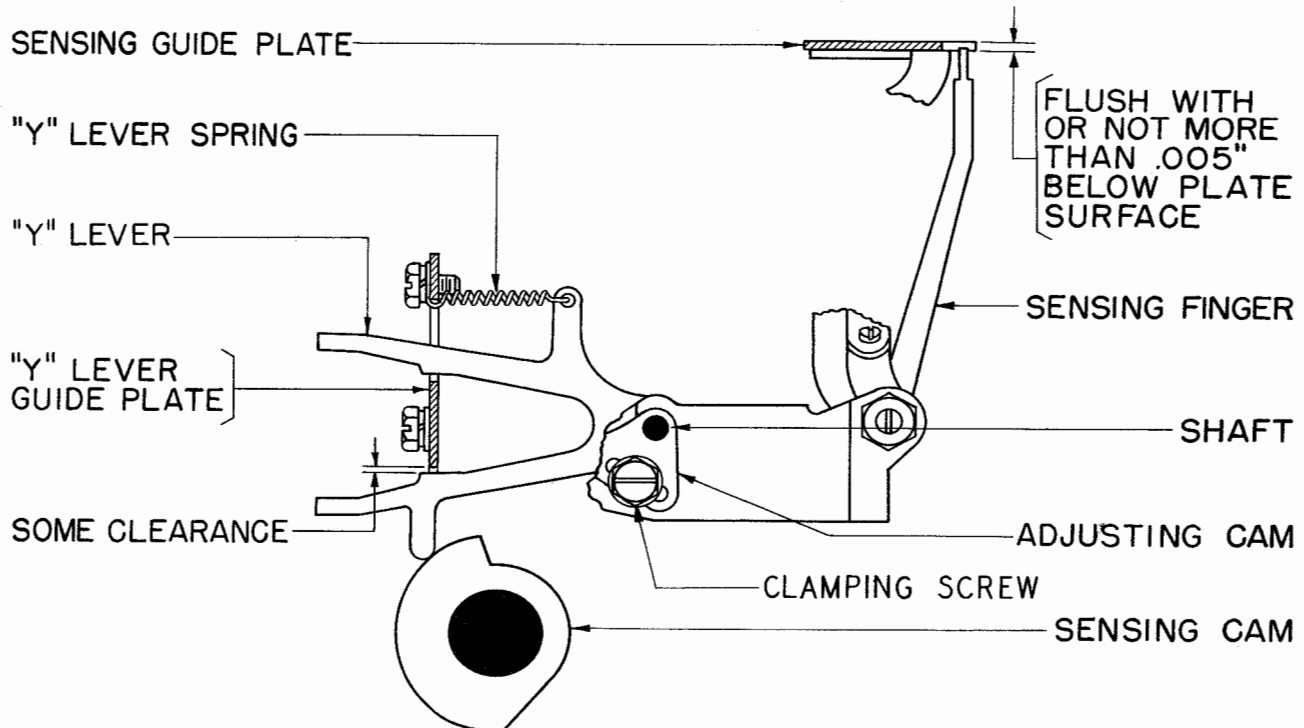

Figure 53
2.109 Y-Lever Pivot-shaft: With the camfollower tip on each Y-lever resting firmly on the high part of its associated cam, the tip of the sensing finger which is withdrawn the least distance into the sensing-mechanism guide-plate shall be just flush with or not more than 0.005 inch below the surface of the tape channel in the guide plate. Gauge by eye with the pivoted transmitter first against the die block, then in the center, and finally against the left stop. See Figure 53.
(a) With the camfollower tips of the Y-levers resting on the high part of their associated cams, there shall be some clearance between the top edge of the lower arm of the Y-lever and the top of the associated slot. See Figure 53.